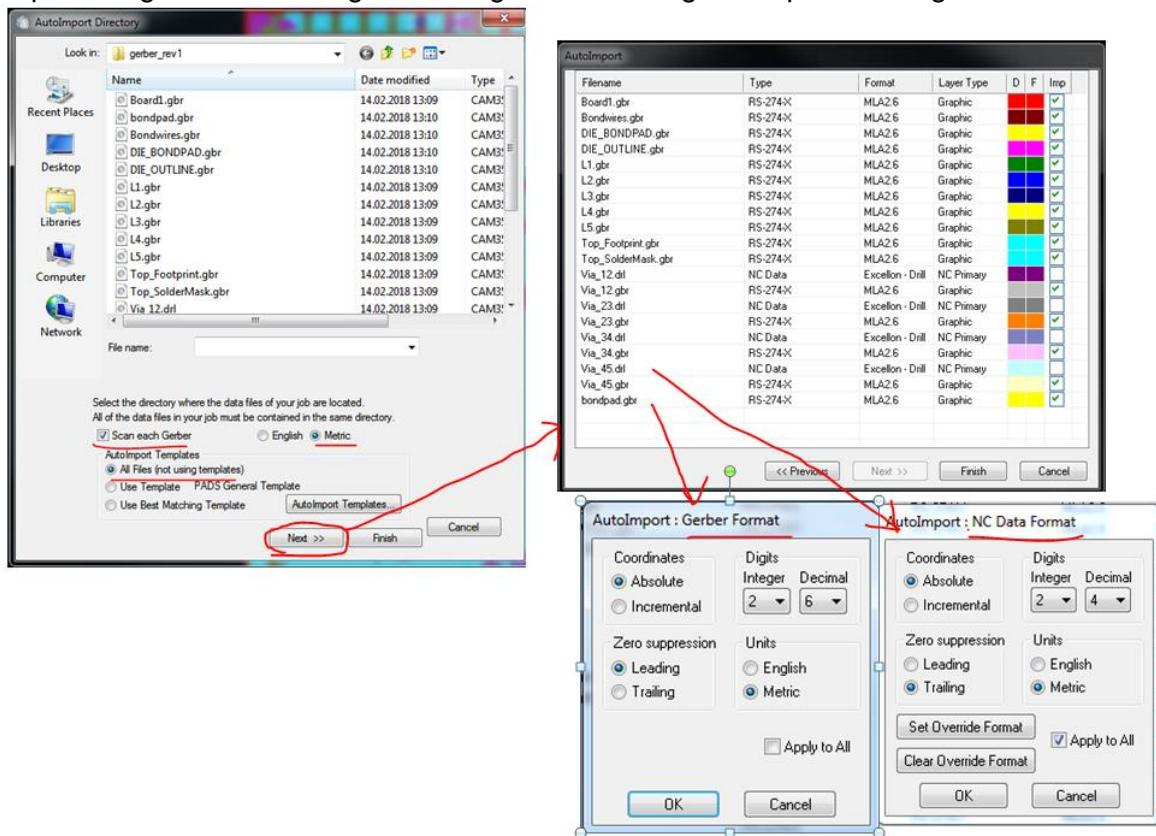

Figure 61 Cam350 gerber auto import settings
1. Import the gerber files using the settings and color legend depicted in Figure 61